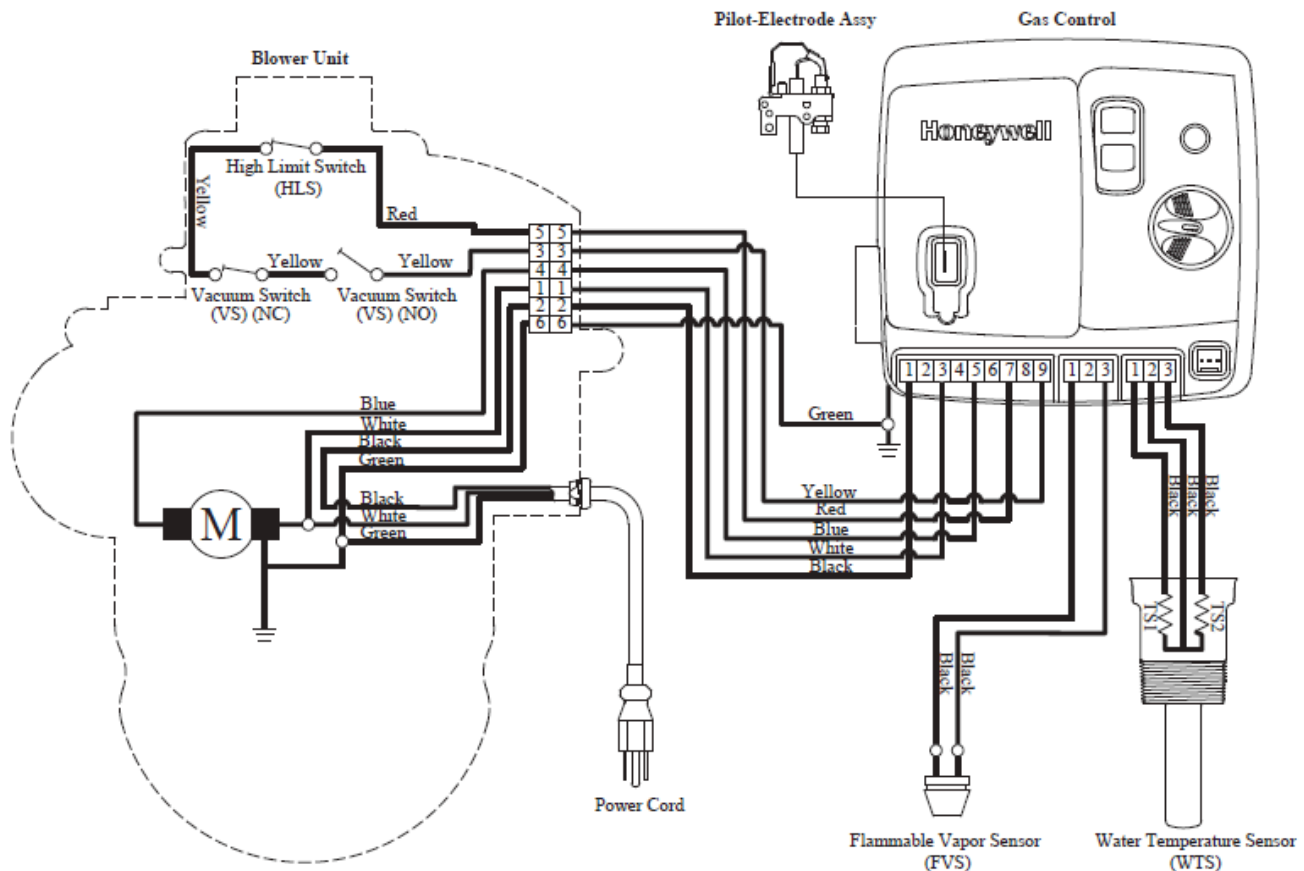

Figure 80. Honeywell connection diagram
On standing pilot water heaters, the TCO also protected the unit from restricted combustion air flow. Whereas on these electric units instead of the TCO a high vent temperature switch (HLS) is used, as shown in Figure 80 as a component on the blower unit.
- Figure 80. “Honeywell connection diagram” from Honeywell International Inc. is used for educational purposes under the basis of fair dealing.